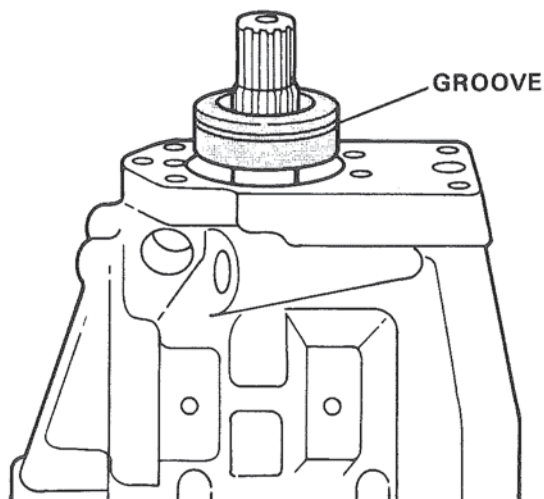

Figure 15. Output Shaft Bearing Properly Positioned for Assembly.
6. With the groove on the outside diameter of the bearing located toward the rear of the transmission, place the bearing over the projecting output shaft and squarely in the bearing bore. Figure 15.